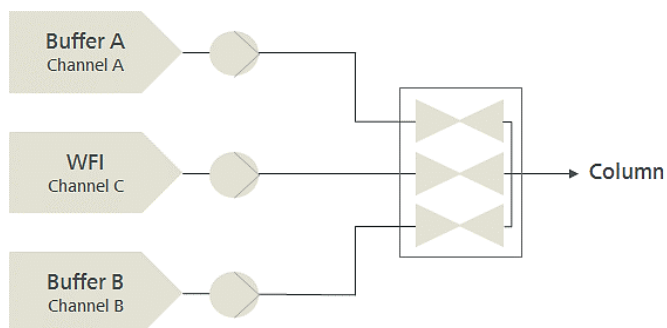

Figure 1. Basic Flow Diagram for Buffer In-line Dilution
While the two (2) concentrated buffers are being supplied, the third pump delivers a diluent solution (typically purified water or WFI), diluting the concentrated buffers to the concentration required for the chromatography process step (Figure 1).